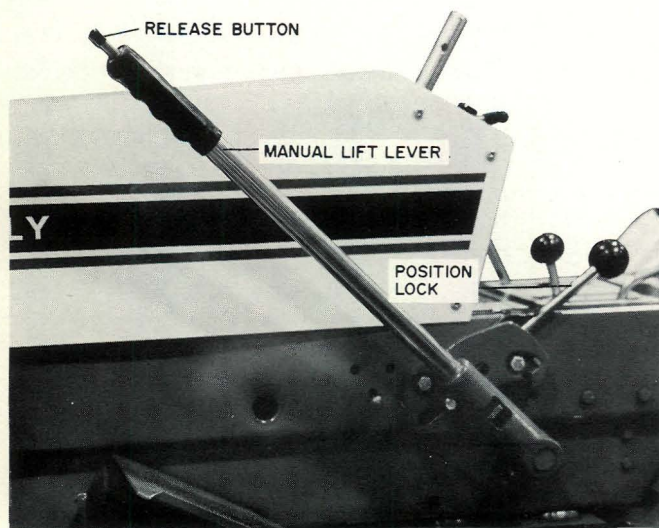

Figure 3
2. To lower equipment, pull back slightly and depress the button on top of lever, and push forward (away from operator). See fig 3.
The Position Lock limits downward travel of lever and can be adjusted without leaving operator's position. See fig 3.